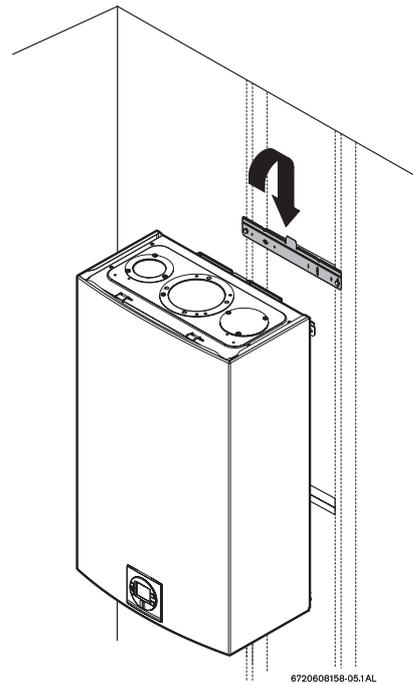

Fig. 10 Mounting the heater
- ▶ Hang the appliance on the bracket, see Fig. 10, page 10.